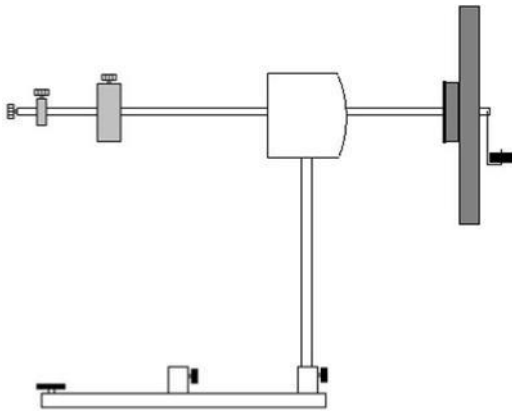

Fig. 2: Precession
- Set up the gyroscope as shown in Fig. 2 and balance it.